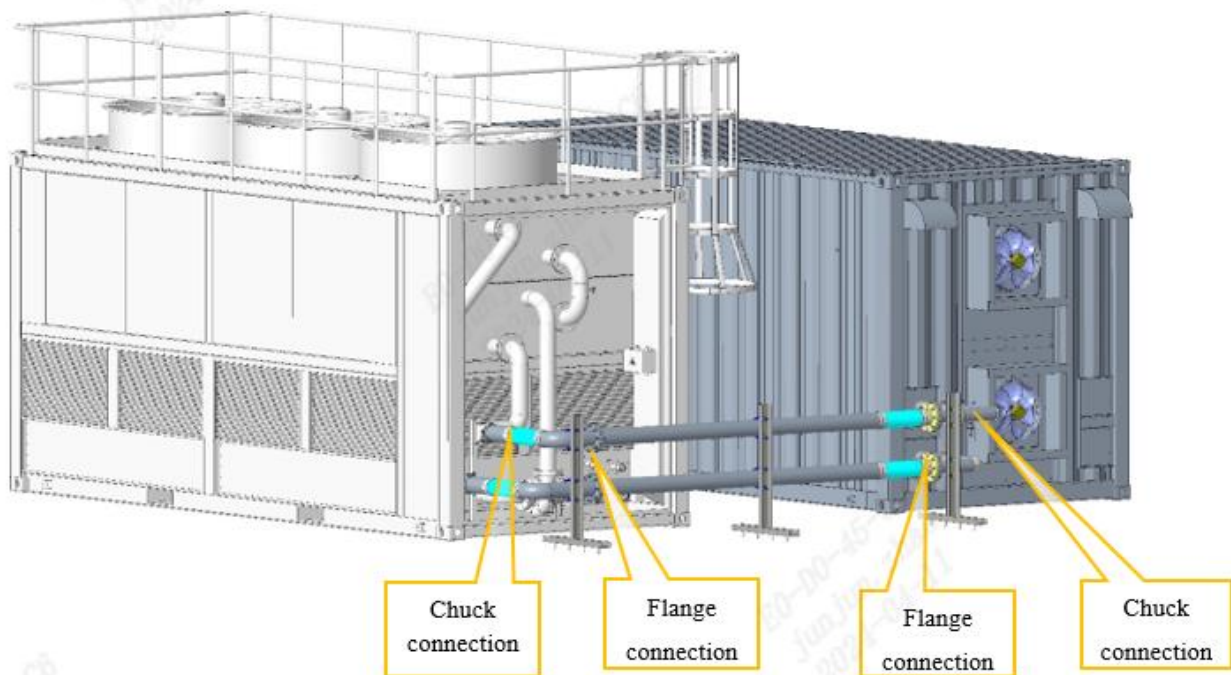

Figure 6-4 Installation diagram of external pipelines
- c) Connect the above pipelines according to the requirements in Figure 6-4. There are 10 connections in total: 6 flange connections, 8 single connection points, and 1 DN125 sealing gasket is required for each connection; 4 chuck connections, 1 connection point at a single location, and 1 ISO 141.3 chuck sealing gasket is required for each connection. It should be noted that the sealing gasket should not be damaged, worn, or deformed.